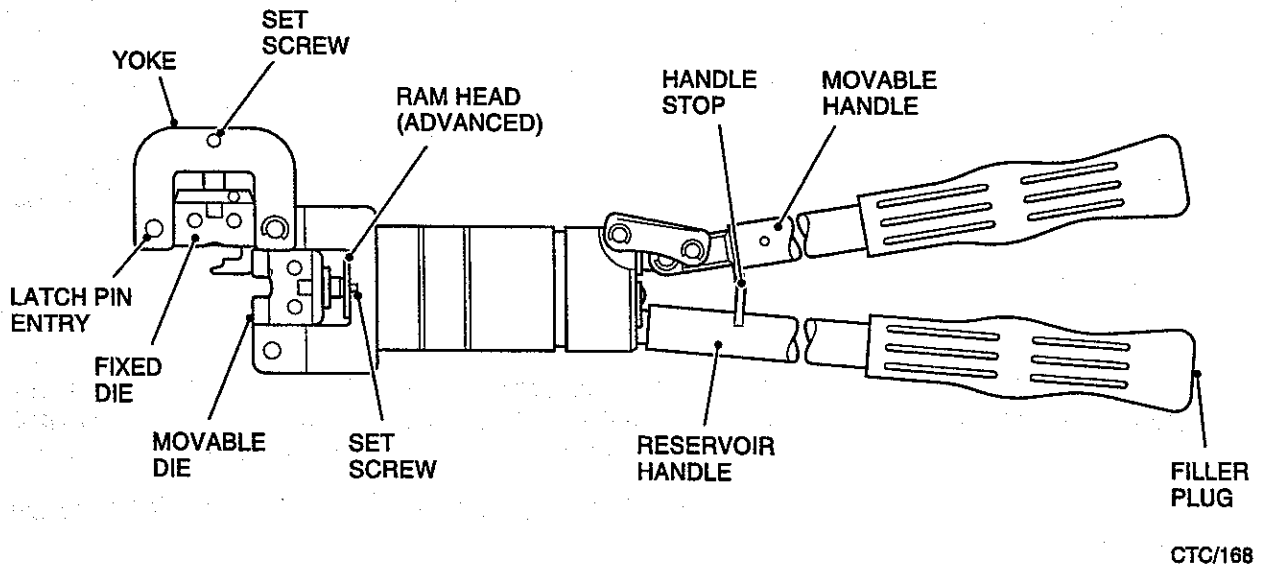

Fig 3 Hydraulic hand-operated crimping tool
6.1 Hand-operated hydraulic tool (see Fig 3). This tool (Part No. 69061) when fitted with the appropriate dies, is used to crimp terminations to cables in the size code range 8 to 2.
Inserting the dies (see Figs 3 and 5)**CAUTION**
TOOL OPERATION**Hand-operated tool (see Fig 3)**